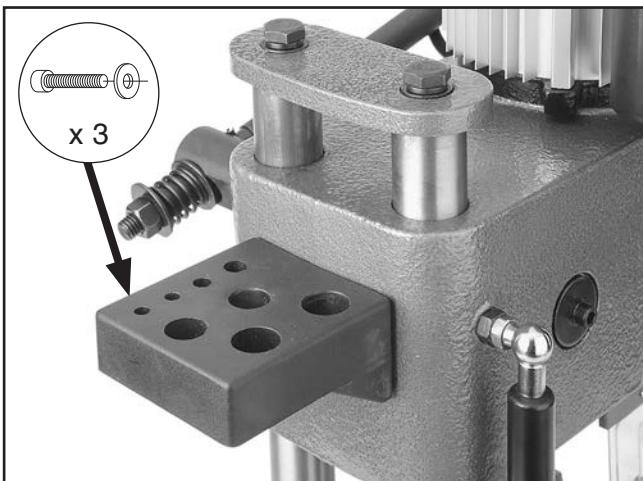

Figure 16. Tool storage rack installed.
11. Attach tool storage rack to back of headstock using (2) M6-1 x 15 cap screws and (2) 6mm flat washers (see **Figure 16**).